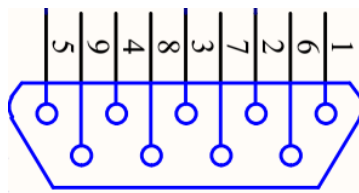

Figure 8 RS232 Connector DB9
2) To connect the power supply cable to the 48V DC power supply, and make sure that the DC power supply can provide enough output power. Please note the polarity of the cable. Power supply cable “+” is DC positive and “-” is DC negative and GND is ground wire. Below figure8 is shown the power supply cable.
Pins definition is shown in below Figure8 & Table 7: